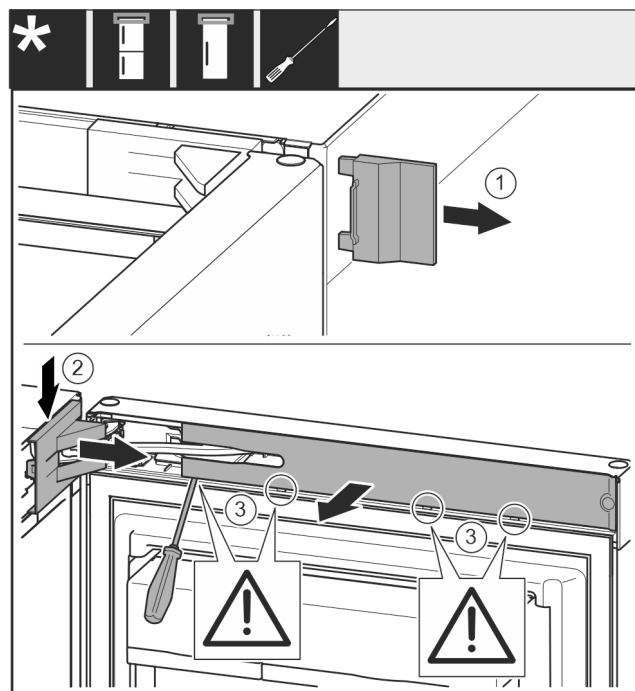

Fig. 7
- ▶ Remove the outer cover. Fig. 7 (1)
- ▶ Disengage and release the bearing bracket cover. Remove the bearing bracket cover. Fig. 7 (2)
- ▶ Unlatch the panel with a slotted screwdriver and swivel it to one side. Fig. 7 (3)